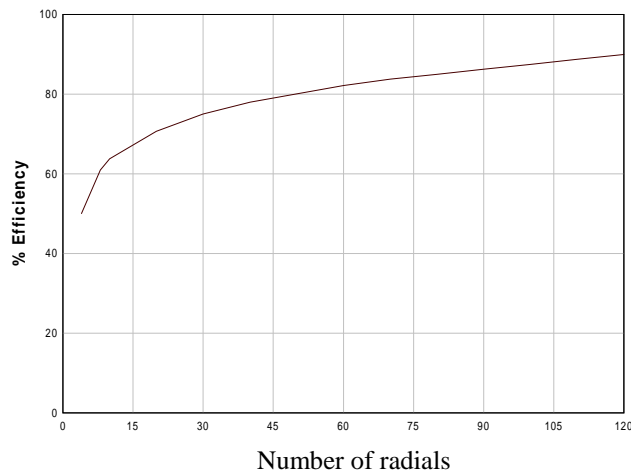

Figure 1
1. More radials equals higher efficiency (see figure 1)